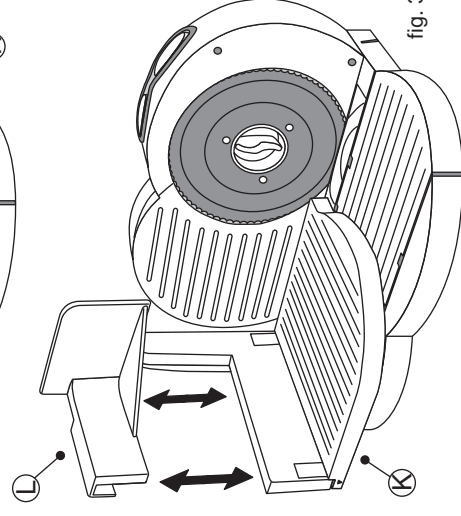

fig. 3
3. Slide the Protective Guide (L) onto the Food Tray (K). See fig. 3.